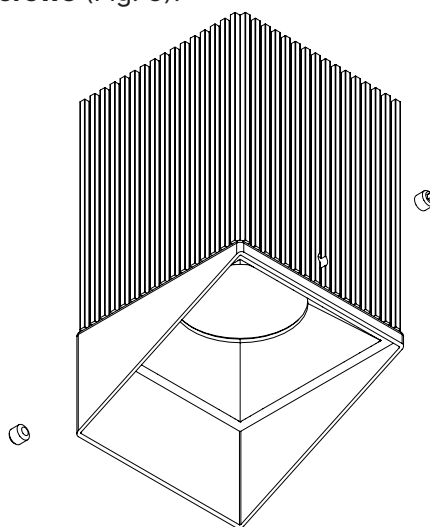

Fig. 2
2. Insert the **Trim** into the **Light Engine** (Fig. 2).